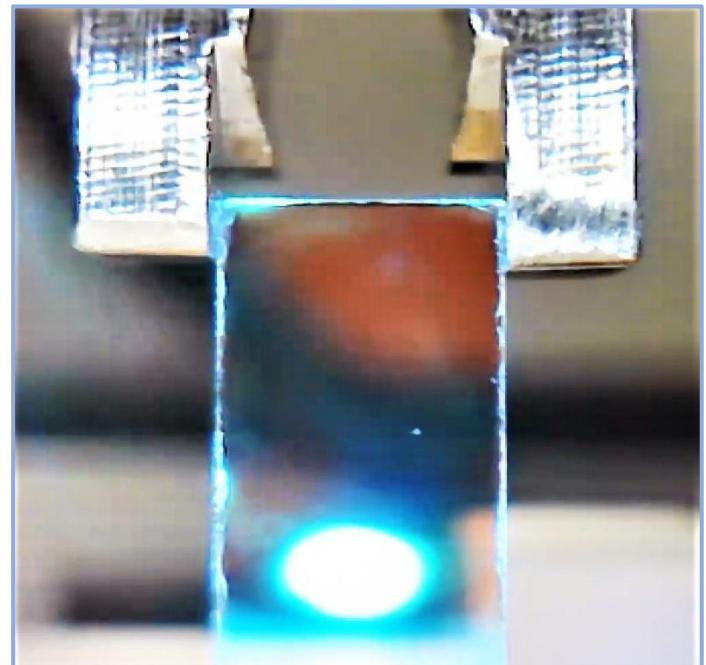

Figure 40 – Angled Folding Mirror (400326-00) Held in Precision Gripper
- 10.3.4.3 Pick up the mirror using the gripper. Grab it by a slight amount at the top - approximately 0.5mm of surface area as seen in Figure 40. Grabbing too much of the mirror results in the following steps being much more difficult to perform.
- 10.4.2.3 Pick up the mirror using the gripper. Grab it by a slight amount at the top - approximately 0.5mm of surface area (Figure 40 for reference). Grabbing too much of the mirror results in the following steps being much more difficult to perform.